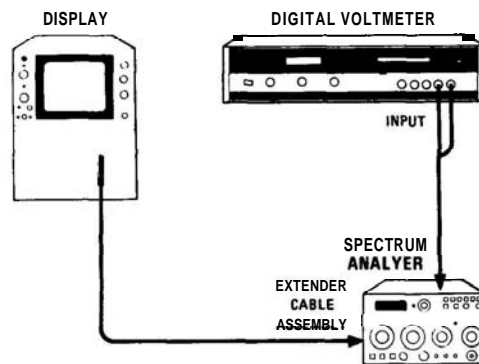

FIGURE 5-1. POWER SUPPLY CHECKS AND ADJUSTMENT TEST SETUP
1. Connect equipment as shown in Figure 5-1. Install Frequency Control Assembly A7 on extender board and connect digital voltmeter to **A7TP3 +14.5V**.